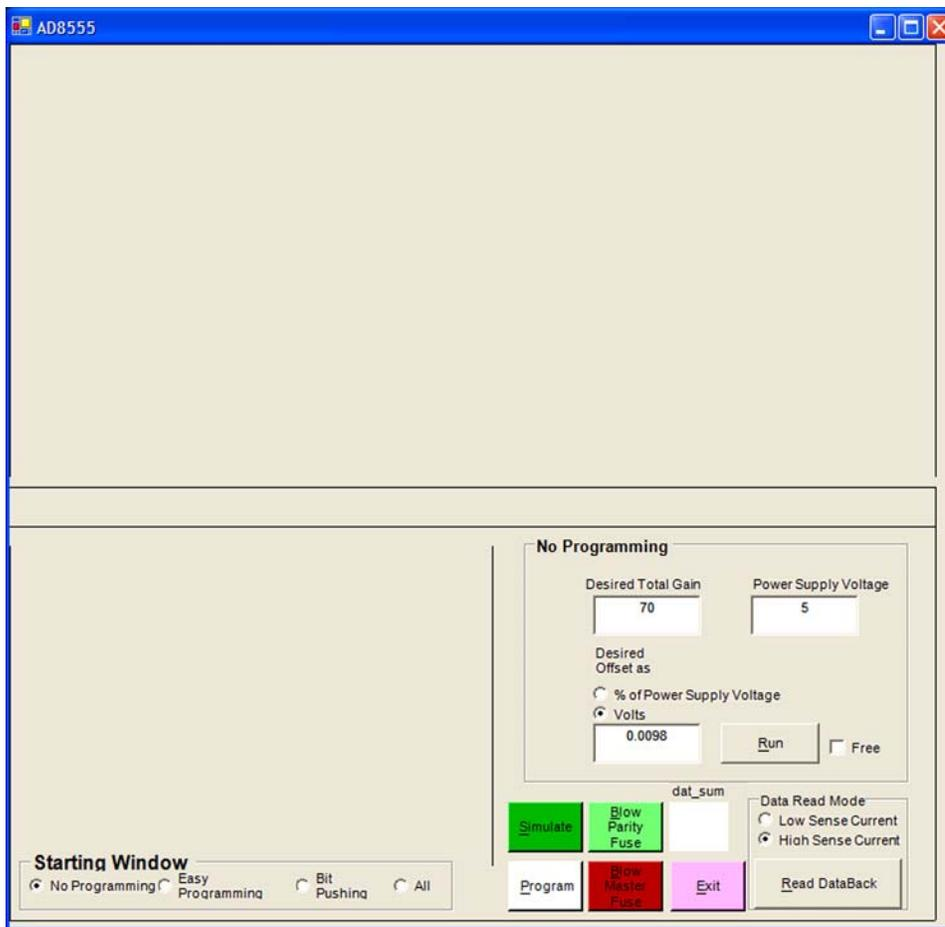

Figure 3. No Programming Dialog Box
1. To select no programming mode, click **No Programming** in the **Starting Window** at the bottom of the AD8555 software dialog box. The dialog box shown in Figure 3 appears.